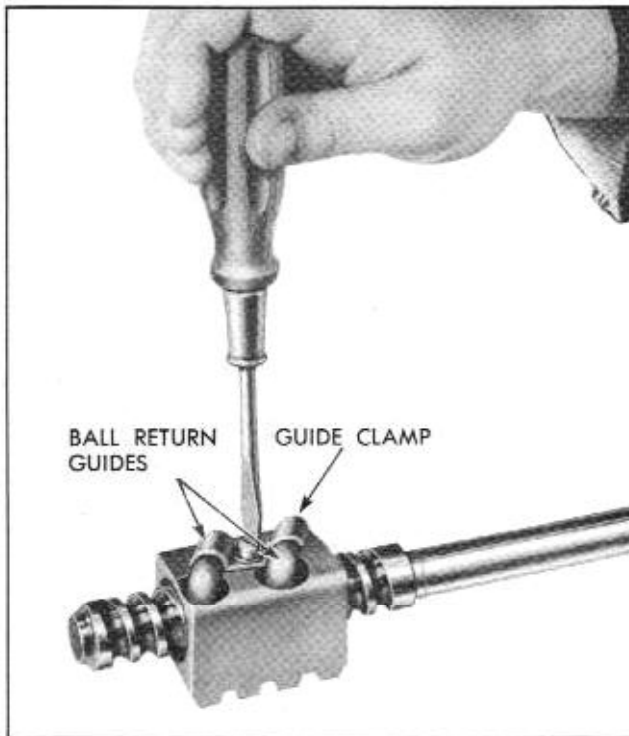

Fig. 9-11 Removing or Replacing Ball Nut Return Guide Clamp
8. Remove ball nut return guide clamp by removing one screw (Fig. 9-11), remove guides, turn ball nut over and remove balls. Rotating shaft slowly from side to side will aid in removing balls.
2. Install 18 balls in each circuit of ball nut (rock steering shaft slightly to aid in installing balls) and insert 9 balls in each return guide using petrolatum to hold balls in place. Install return guide clamp and screw (Fig. 9-11). **CAUTION:** Do not rotate shaft while installing balls, since balls may enter crossover passage between circuits. This will cause improper operation of ball nut.